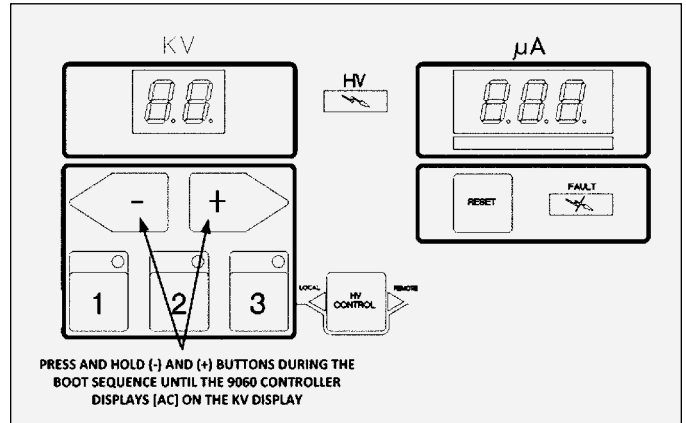

Figure 32: Location of (+) and (-) Buttons
2. Press and hold both the (+) and (-) keys, shown in Figure 32, and then turn on the power switch.